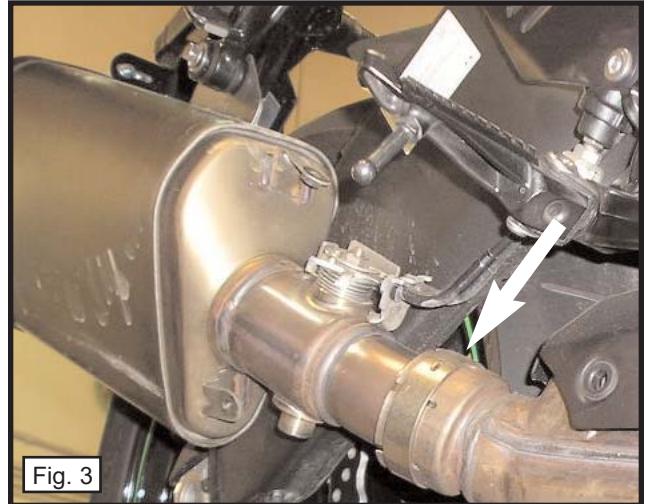

Fig. 3
- 6) Loosen the clamp securing the stock muffler section to the pre-muffler section of the stock exhaust system. (Fig. 3)